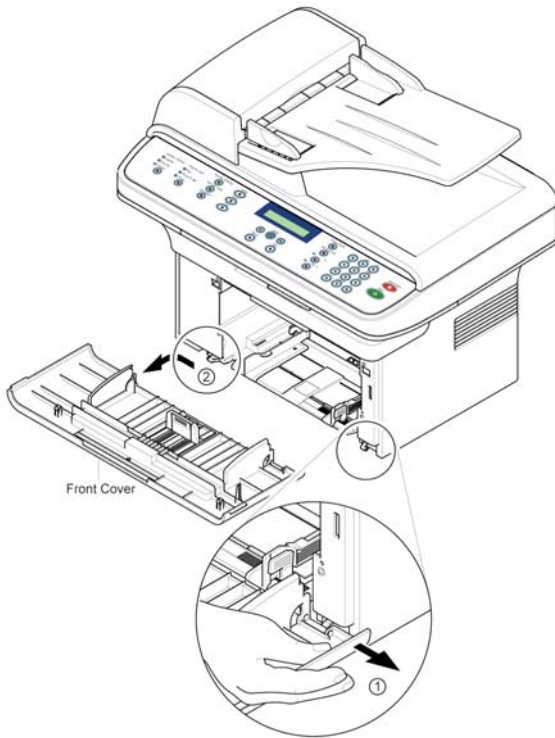

Figure 2
2. To remove the front cover, carefully pull the part below the right side of the front cover in the direction of the arrow (left), Figure 2.